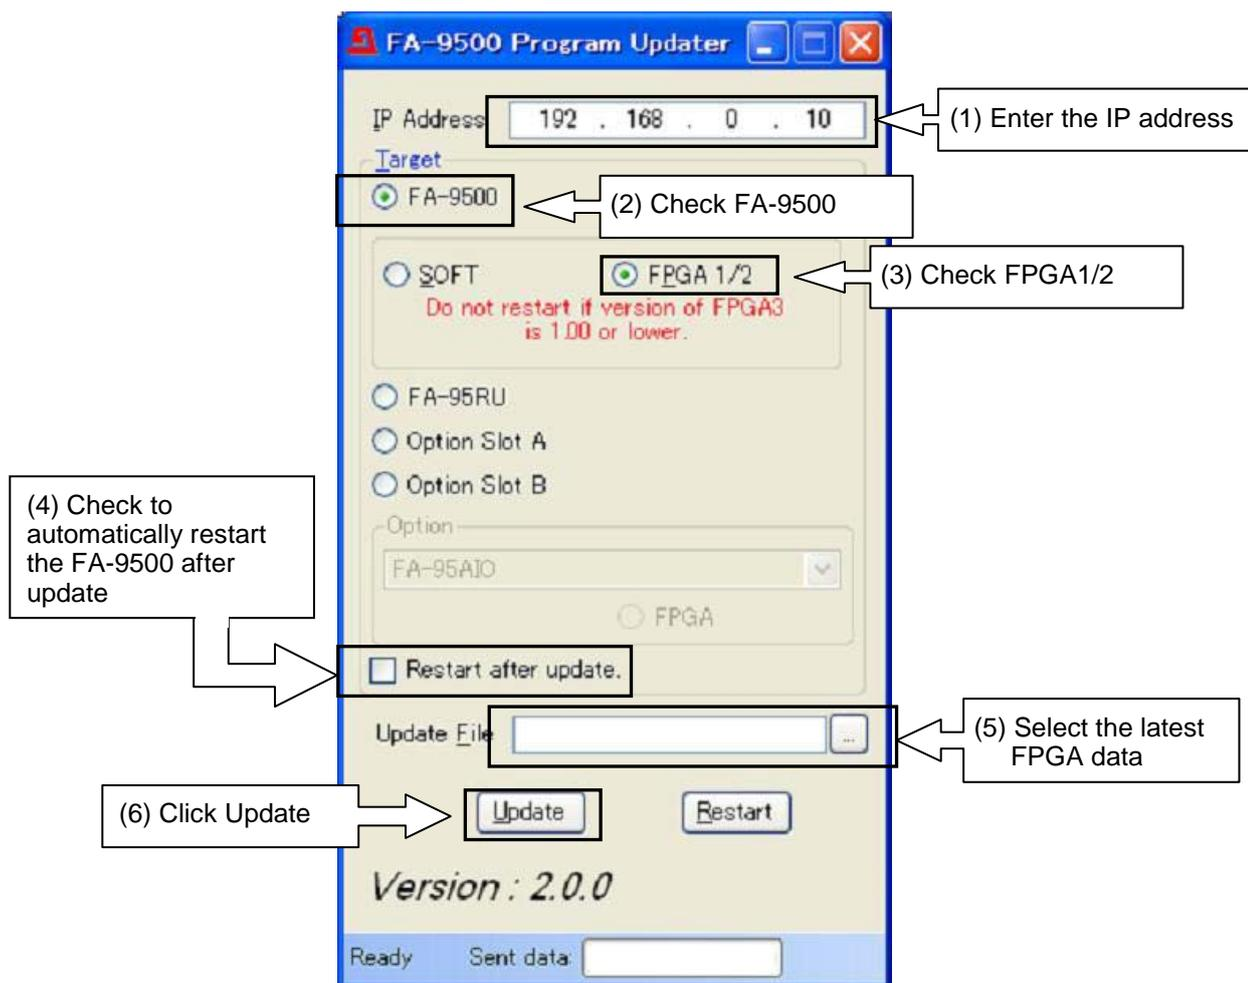

Fig. 8 FA9500ProgramUpdater window for FPGA update
3. Enter the IP address (default IP address: 192.168.0.10)(Fig. 8.(1)).
4. Check **FA-9500** in the Target section (Fig. 8. (2)).
5. Check **FPGA1/2** in the Target section (Fig. 8. (3)). To automatically restart the FA-9500 after update, check **Restart after update** (Fig. 8. (4)).
6. Select the latest FPGA data under **Update File** (Fig. 8. (5)).
7. Click **Update** to start updating (Fig. 8. (6)).